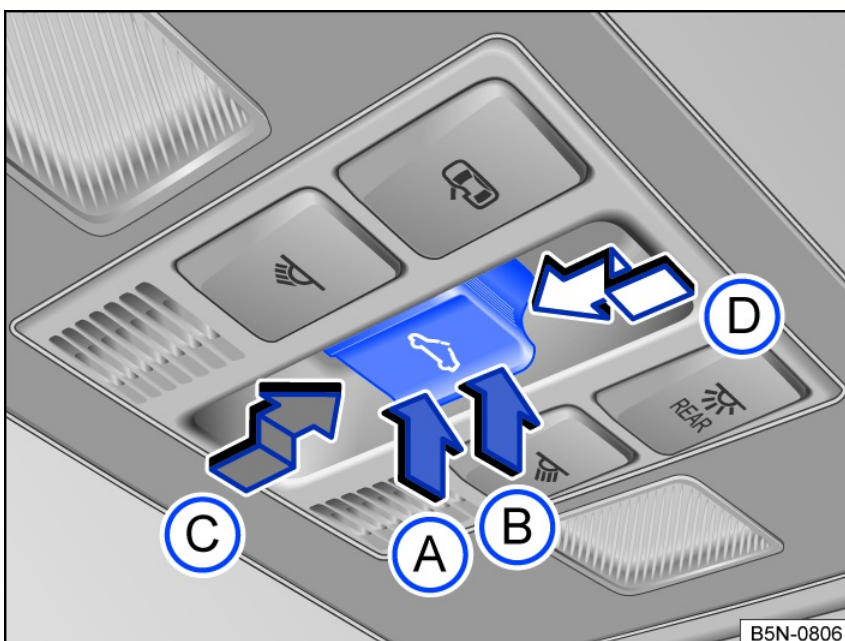

Fig. 64 In the headliner: sunroof button.
- Manual process: Press the *fig. 64*  button to the first level.